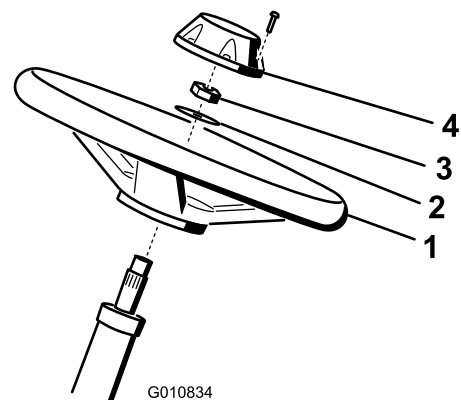

Figure 3
1. Slide the steering wheel onto the steering shaft (Figure 3).
2. Slide the washer onto the steering shaft (Figure 3).
- Secure the steering wheel to the shaft with a jam nut and tighten it to 27 to 35 N-m (20 to 26 ft-lb) (Figure 3).
- Install the cap to the steering wheel and secure it with a screw (Figure 3).